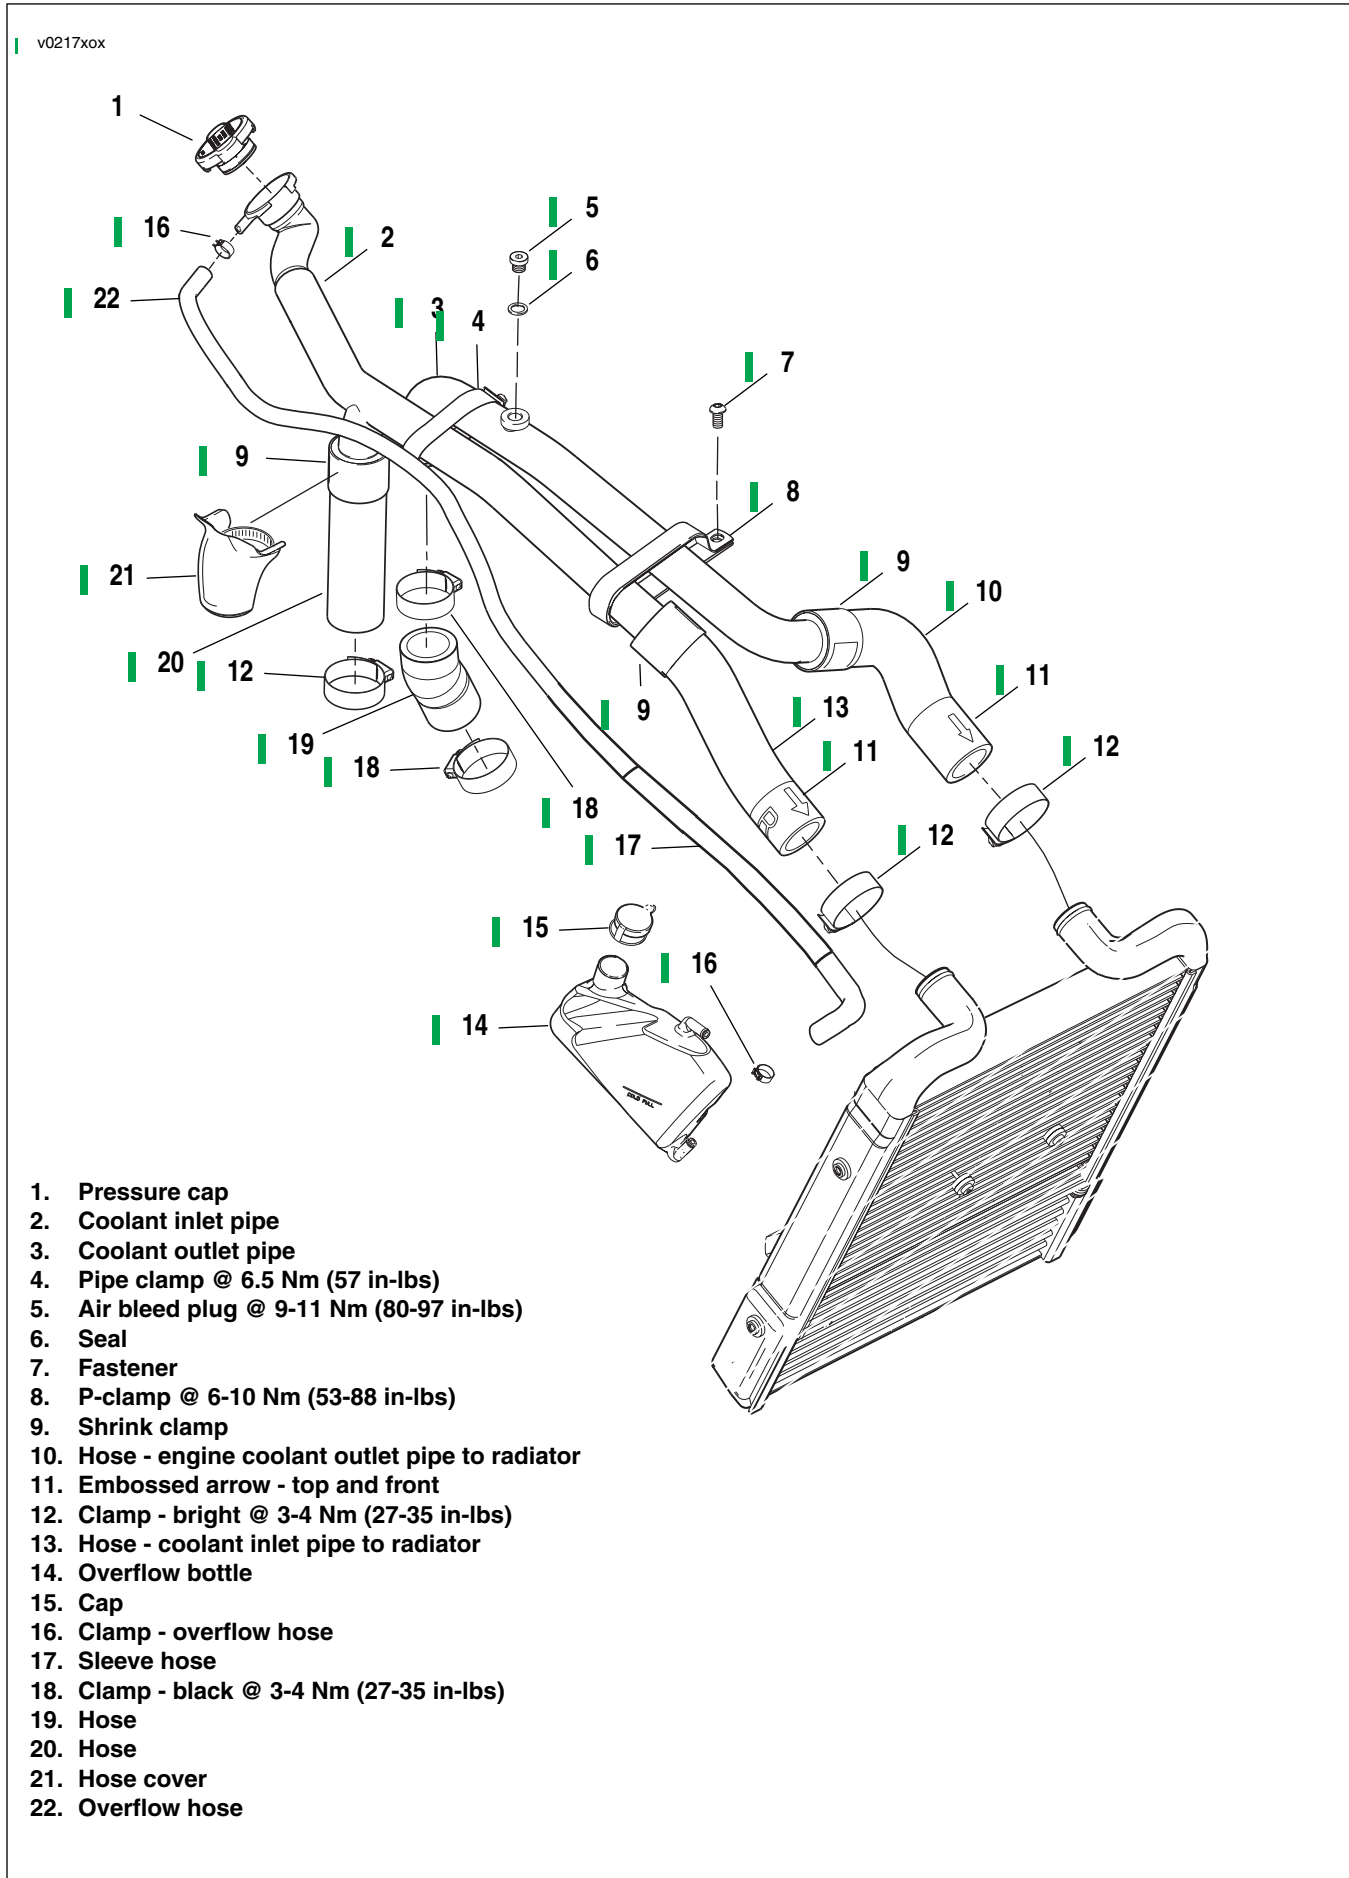

Figure 6-17. Coolant Pipes and Hoses
7. See Figure 6-17. Loosen pipe clamp (4). Loosen and remove fastener (7) holding p-clamp (8) to engine.
8. Squeeze clamp (17) and pull off end of overflow hose (23) at overflow bottle (14). Pull drain hose to radiator/oil cooler off overflow bottle. Remove overflow bottle (14).
10. Use a long thin screwdriver (Snap-on Part No. SDD1410) to loosen clamps (12) and pull hoses (10, 13) off radiator.
1. See Figure 6-17. Cut shrink clamps (9) from the coolant inlet and the coolant outlet pipes (2, 3) and hoses (10, 13, 21).
1. See Figure 6-17. If removed, thread the air bleed plug (5) with **new** seal (6) into the coolant outlet pipe (3).
2. Remove **new** shrink clamp (9) from packaging brace by squeezing band to collapse, then fold in half and remove from cardboard. Slide shrink clamps over hoses.
3. Orient radiator hoses with embossed arrow (11) on top and towards front. Push hose over fitting beads on coolant inlet and coolant outlet pipes (2, 3).
4. Orient shrink clamps (9) so print on the clamp is visible after shrinking. Slide clamp over end of hose to overlap the bulge formed by fitting bead of coolant pipe.
5. Using an ROBINAIR HEAT GUN (Part No. HD-25070) or similar tool, apply heat to shrink clamps (9). Move heat tool around clamp continuously to prevent burning.
1. See Figure 6-17. With upper black clamp (18) on hose (19) and lower black clamp (18) loose, install coolant outlet pipe (3).
2. With embossed arrow (11) pointing towards front and on top, push hose (10) over neck bead of radiator inlet neck. Push hose (20) onto outlet neck of thermostat housing.
3. With hose cover (22), clamp (19), and bright clamp (12) loose on hose, install coolant inlet pipe (2).
4. With embossed arrow (11) pointing towards front and on top, push hose (13) over neck bead of radiator outlet and push hose (21) over water pump inlet neck.
6. Install p-clamp (8) and pipe clamp (4) over both pipes. Tighten pipe clamp (4) to 6.5 Nm (57 **in-lbs**) and tighten p-clamp to 6-10 Nm (53-88 **in-lbs**).
7. Install, through right side cover opening, overflow bottle (14) with hose (15), and cap (16). L-shaped catch on bottom of bottle fits to slot in battery bracket. Push on drain hose to radiator/oil cooler assembly.
8. Install and clamp overflow hose (17) to filler neck and overflow bottle cap (14).